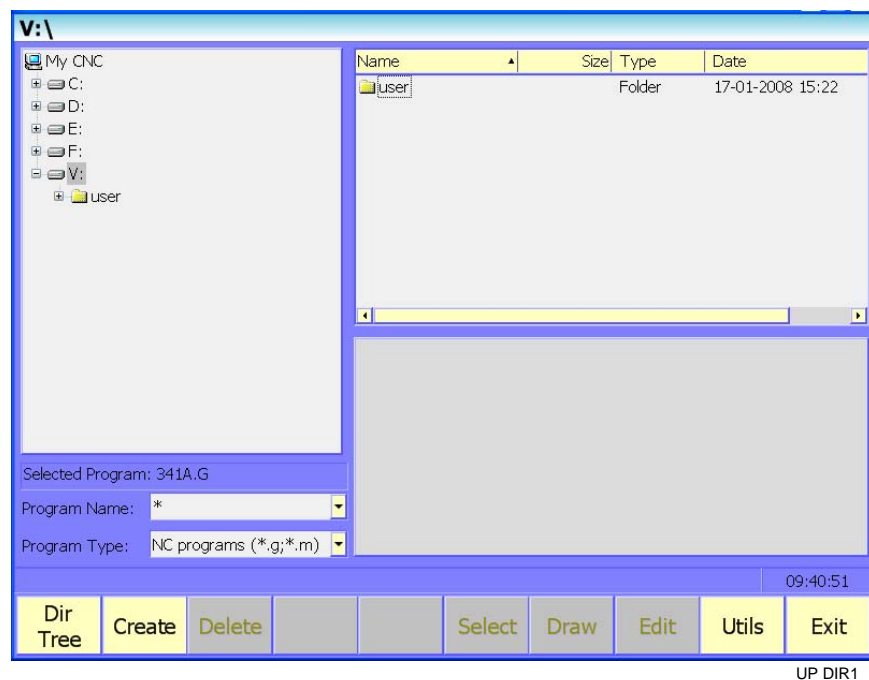

Figure 10-5, Up Dir Screen
- Select **Up Dir (SHIFT + F10)** to show the source directory without the tree structure. Refer to **Figure 10-5**.